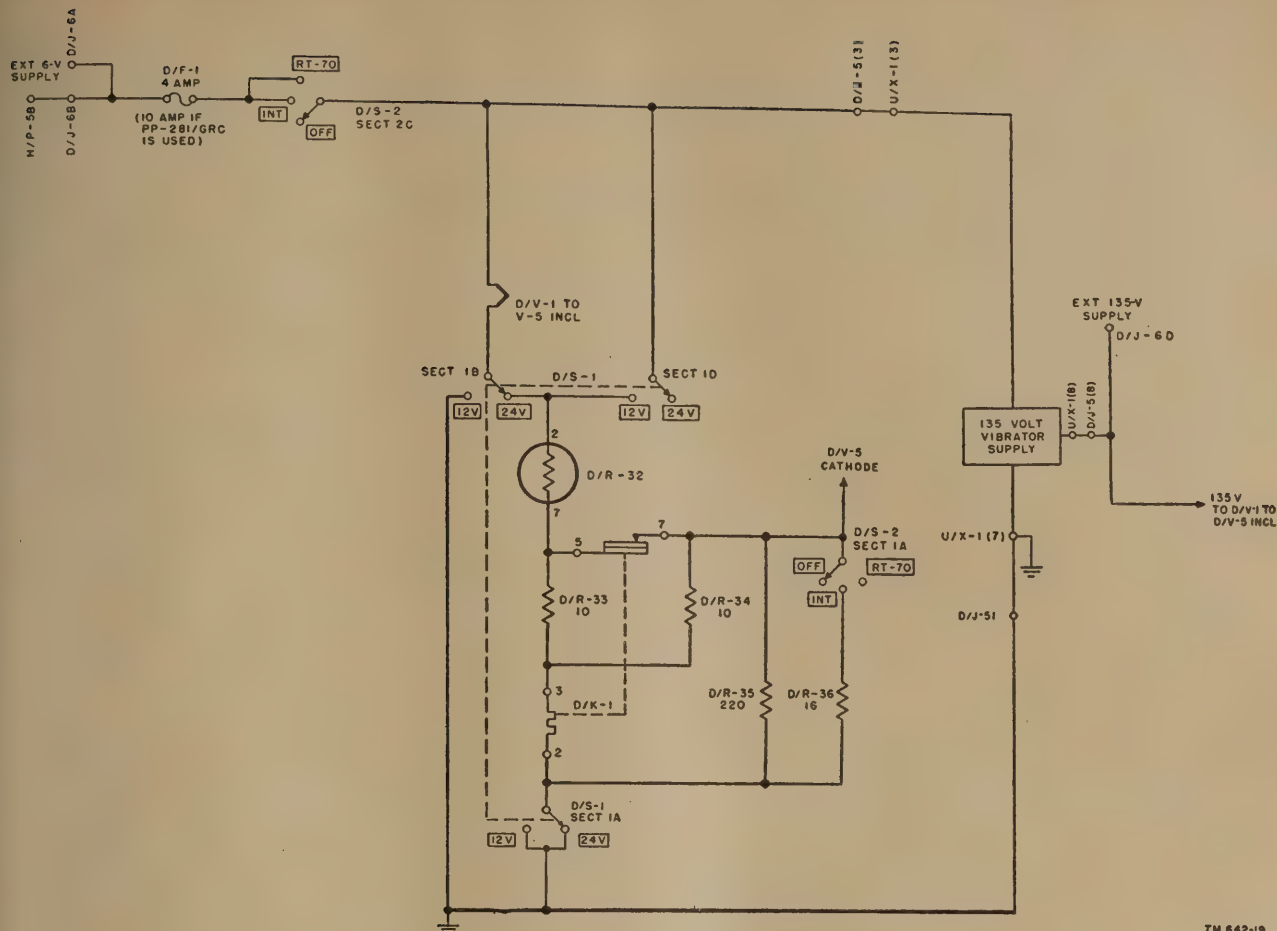

Figure 40. Interphone amplifier, power distribution circuits.
71. Interphone Amplifier Power Distribution Circuits (fig. 40)
(1) When 6V-12V-24V switch D/S-1 (the 6V position is not used) is in the 24V position, sections 1B and 1A of the switch place the filament protection circuit for a second receiver-transmitter (when used) in series with the amplifier filaments (D/V-1 through V-5). For 12-volt operation, sections 1B, 1D, and 1A of D/S-1 place the filament and protection circuits in parallel directly across the battery. Section 1A of D/S-2, when in the INT position, places dummy load resistor D/R-36 in parallel with a section of the filament protection circuit in place of the load a second receiver-transmitter (when used) would place on the circuit.
(2) The input voltage for the 135-volt vibrator in the amplifier is supplied through terminals D/J-5(3) and U/X-1(3). The vibrator output circuits are discussed in c below.
c. *Amplifier Plate and Screen Supply.* The plug-in vibrator power supply develops 135-volt output which is applied to the amplifier (and a second receiver-transmitter when used) plate and screen circuits (fig. 40). The amplifier tubes (V-1 through V-5) are supplied directly from the output of the vibrator. Provisions are made through terminal D/J-6D (POWER IN) to substitute an external 135-volt source for the vibrator output.